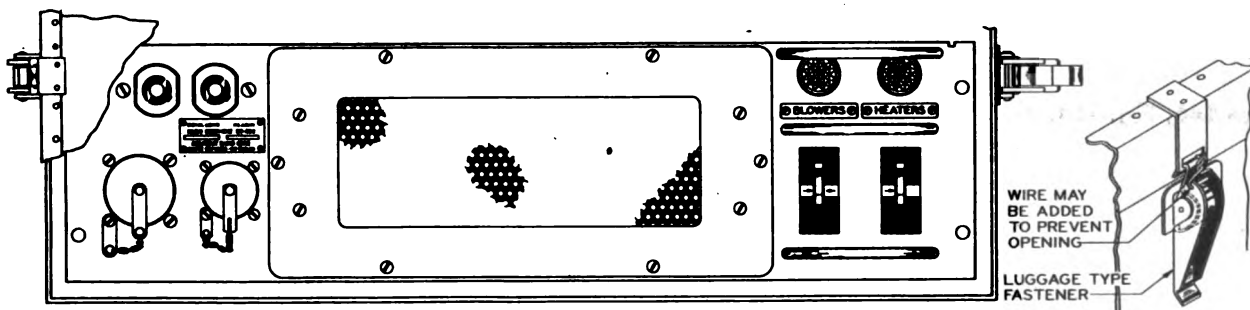

Figure 126. Rack FM-93, lower front panel.
a. The fasteners for the waterproof covers of Rack FM-93 and Control Unit BC-1378 have been changed from captive wing-nut type to luggage-type clasps (fig. 126).
b. The a-c convenience outlets on the side of Rack FM-93 have been moved to the lower left-hand side of the front of the rack (fig. 126).
c. The BLOWERS pilot light and switch has been moved from the left-hand side of the lower front panel of Rack FM-93 to the right-hand side (fig. 126).
d. The receptacle for the seven-conductor cable which connects the control unit to the rack has been moved from the right-hand side of the lower front panel of Rack FM-93 to the left-hand side (fig. 126).
e. Ventilation in Rack FM-93 has been improved by eliminating the louver on the bottom front panel of the rack and substituting larger air vents (fig. 126).
**Figures 1, 2, 120, and 124.** The lower front panel of Rack FM-93 as shown in these figures, has been rearranged as shown in figure 126 and described in paragraphs b c d and e above.
**Figures 2 and 104.** The captive wing-nut fasteners shown on the waterproof covers of the equipment in these figures have been changed to luggage-type clasps. These clasps are shown in figure 126.